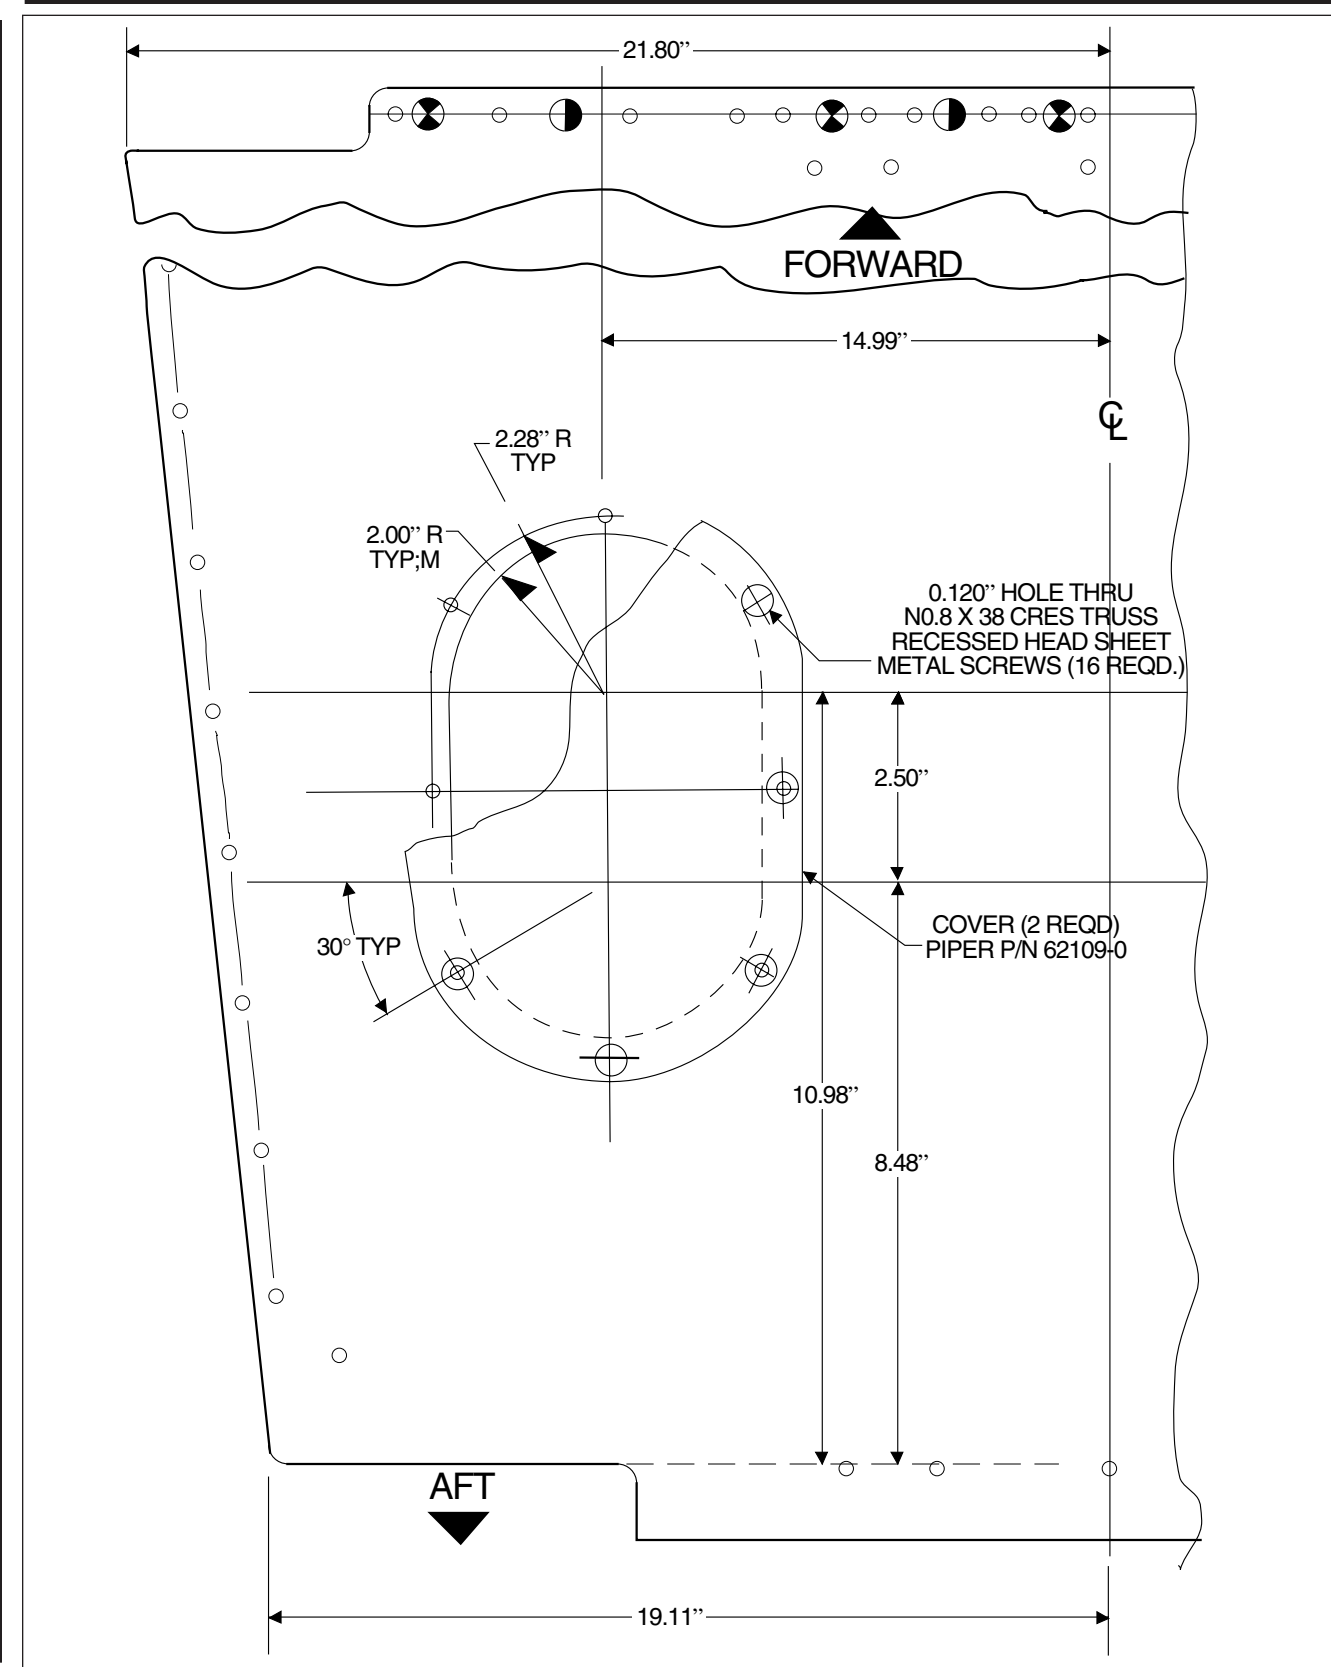

Figure 51-1a. Baggage Compartment Inspection Holes Cutout Details
b. Baggage Compartment Inspection Holes Fabrication Procedure. (Refer to Figure 51-1a.)
While Figure 51-1a shows the hole in the left side of the baggage compartment, a similar hole is also cut out in the right side baggage compartment floor. Installation will require two each inspection access covers, Piper P/N 62109-00.
- (1) Right side baggage compartment Royalite plastic close out panel.
- (2) Rear close out panel.
- (3) Carpeting from baggage compartment floor.
- (c) Determine and mark a reference center line running through baggage compartment. Refer to Figure 51-1a for measurements.
- (i) There should now be two ovals, like the one in Figure 51-1a, laid out on each side of the baggage compartment floor.